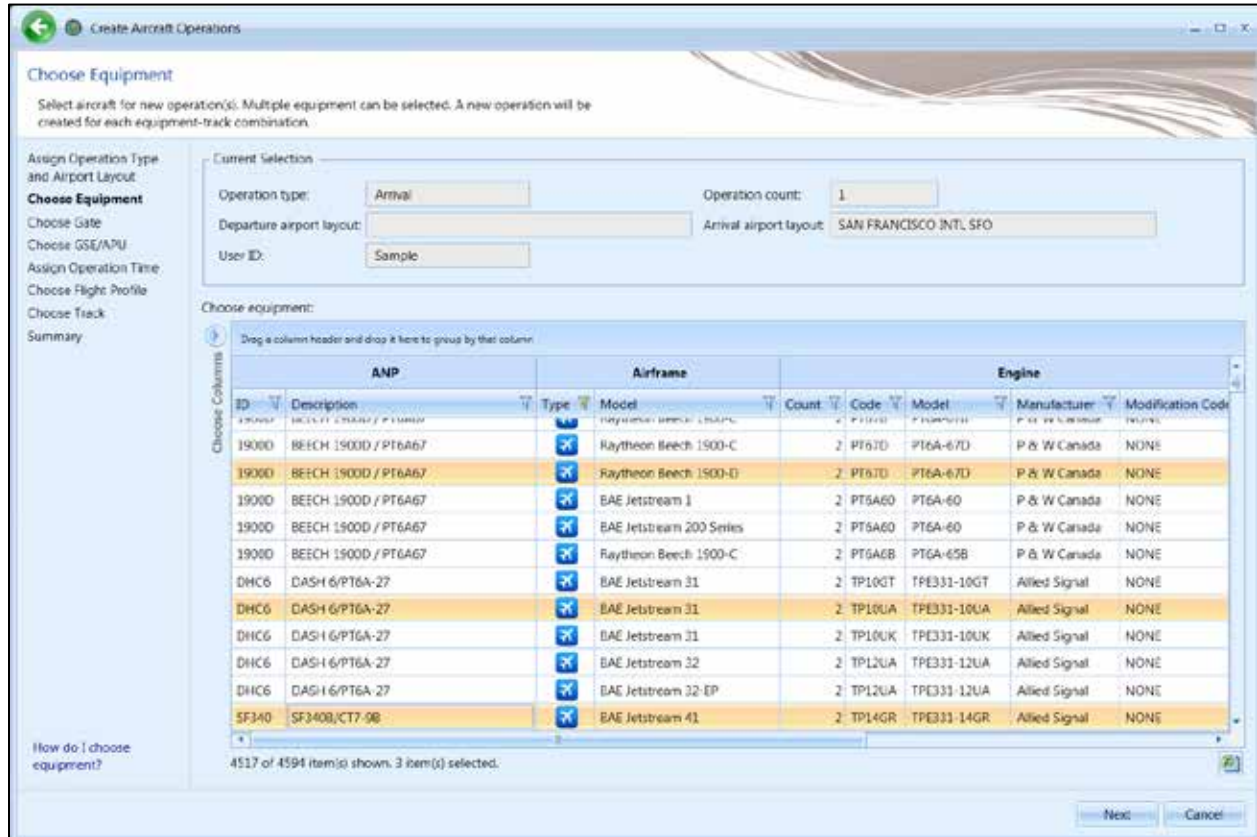

Figure 6-7 Create Aircraft Operation – Choose Equipment (Bulk)
1. Figure 6-7). To deselect equipment, click on the highlighted entry again.